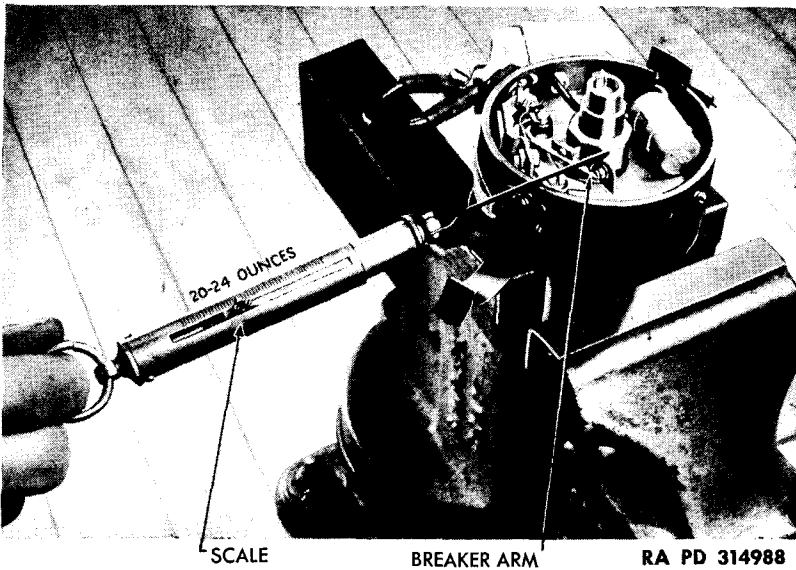

Figure 51 — Checking Contact Arm Spring Tension
f. **Contact Arm Spring Tension.** Check tension of contact arm spring with a spring scale held at right angles to the arm, and as close to the points as possible (fig. 51). Tension can be adjusted by loosening screw on breaker support fiber base, and either sliding the spring forward or backward, or bending spring. Correct tension is 20-24 ounces.